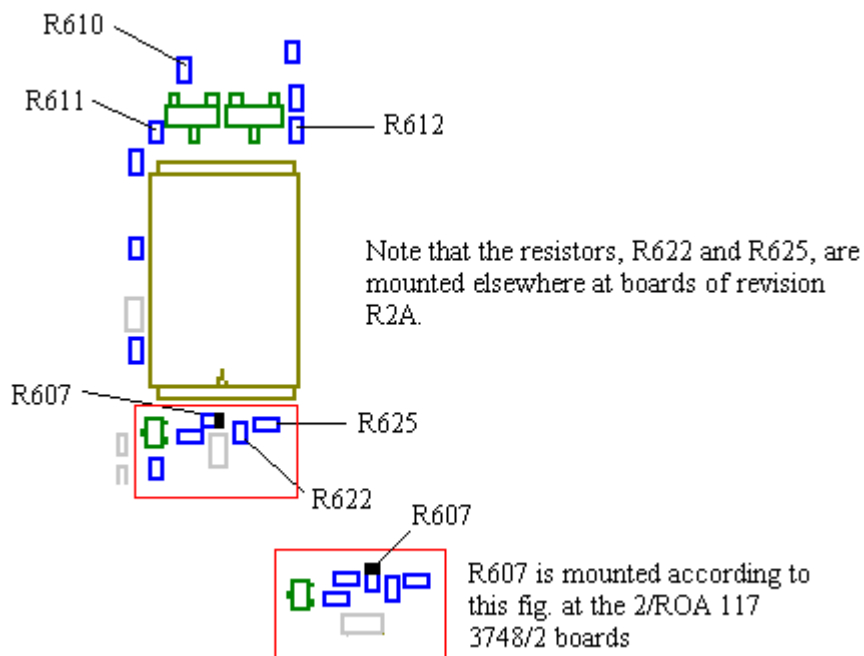

Fig. 5.4
- If VBATT is correct, make sure that R612 (~0 ohms), R610 (~33 ohms) and R611 (~0 ohms, all of them class A, all in fig. 5.4) are mounted and have the correct resistance.
If none of the LEDs, H651-H654 and H655-H660, are lit, measure the voltage at the marked side of R607 (~3.1V, fig. 5.4). **Before measuring you have to press a key for the processor to set the LED3K signal high for about 10s.**
- If VBATT is correct, measure the resistances of R612 (~0 ohms), R610 (~33 ohms) and R611 (~0 ohms, all of them class A, all in fig 5.4. Table 5.1 shows the symptom when the resistors have incorrect resistance.